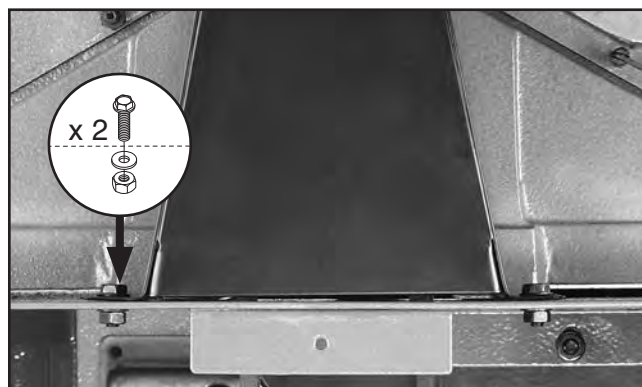

Figure 26. Belt guard installed.
27. Install the belt guard on the cabinet with the (2) M6-1 x 12 flange bolts, 6mm flat washers, and M6-1 hex nuts, as shown in **Figure 26**.